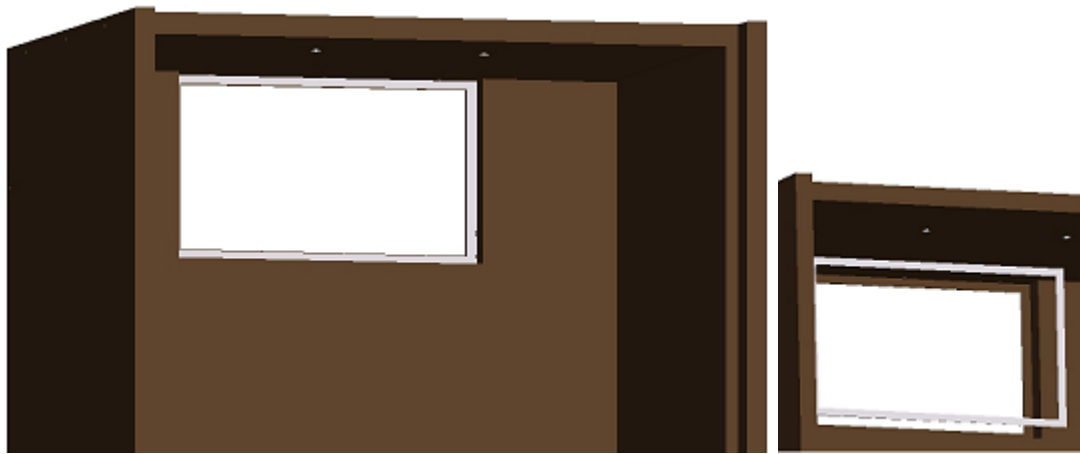

Fig. 2.5 REAR GASKET
- Place the gaskets (1/2" foam tape) on the gasket lips (see Fig 2.5).